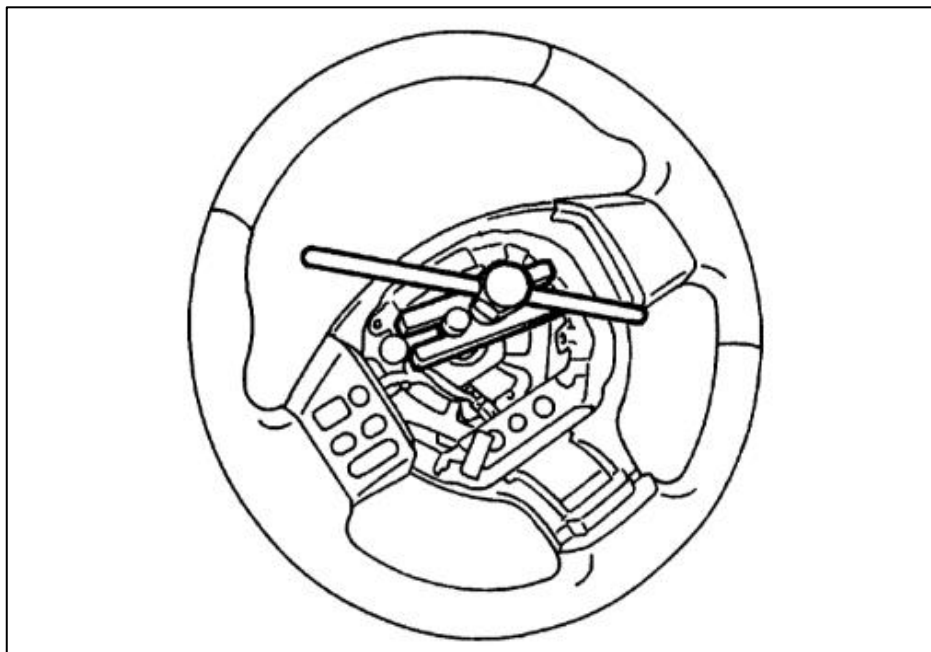

Figure 5
11. Using a Steering Wheel Puller, remove the OE Steering Wheel. If you do not have a Steering Wheel Puller, grab the Steering Wheel at the top and bottom, and rock the wheel back and forth to loosen it. *Figure 5.*